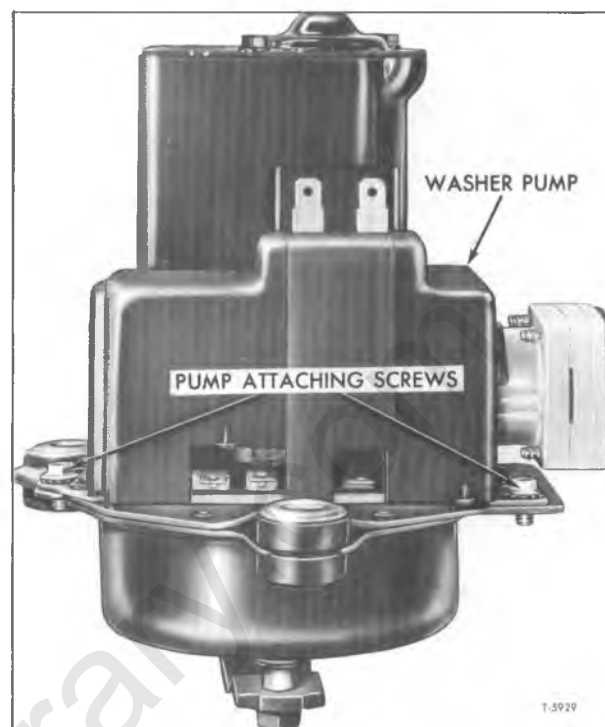
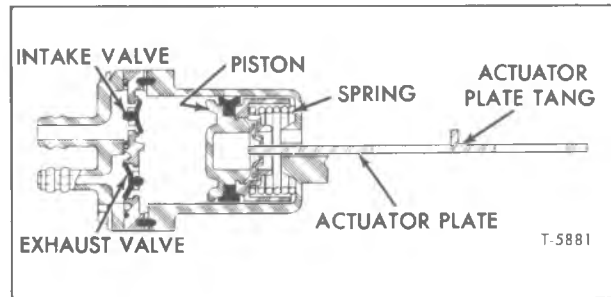

Figure 21—Water Pump Attaching Screws
Figure 24—Washer Pump Piston and Valve Assembly
The "E" type washer pump used on the "E" type rectangular non-depressed park wiper motors resembles previous models somewhat in physical appearance but it has been changed considerably internally. Refer to figure 21 for view of pump mounted on wiper motor assembly. Past model pumps used a bellows system for the pumping mechanism whereas the new design incorporates a piston enclosed in a plastic cylinder housing. The piston type pump provides higher pressures and increased volume (fig. 24).
PUMP REMOVAL (Figs. 21 and 22)
PUMP INSTALLATION (Figs. 21 and 22)
4. Attach a hose to the large or intake pipe. You should be able to blow, but not draw, through intake pipe (fig. 24).